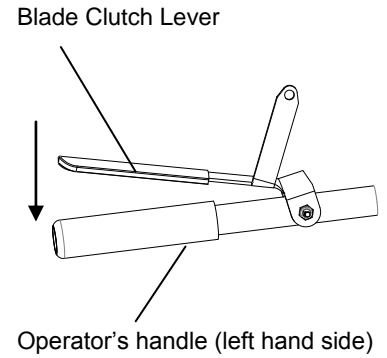
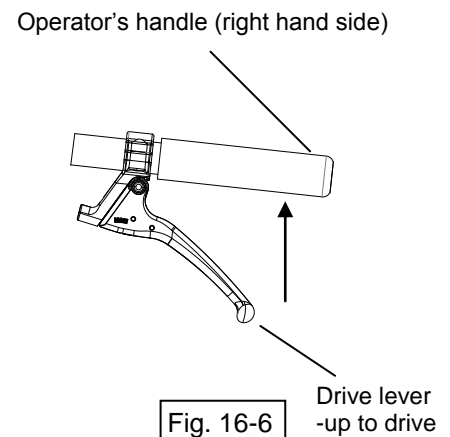

Fig. 16-5
Fig. 16-6
**GENERAL OPERATION:** To engage the blades, depress the operator's left hand control lever against operator's handle. The blade is disengaged by releasing this lever. (See Fig. 16-5 next page) To engage the wheel drive lift the operator's right hand control lever against operator's handle. The drive is disengaged by releasing this lever. (See Fig. 16-6 next page) Ground speed can be varied by shifting gears as described on page 11. To begin cutting, engage the blade lever, allow the blade to spin up to speed, and engage the wheel drive to begin moving forward into the material to be cut.
The HP mower blade clutch is controlled by an operator presence control. To engage the blade, depress the operator's left hand control lever against operator's handle. The blades are disengaged by releasing this lever. (See figure 16-5)
This unit is self-propelled, and is controlled by an operator presence control. To engage the wheel drive, lift the operator's DRIVE lever on the right side against operator's handle. The drive is disengaged by releasing the lever. (See figure 16-6).